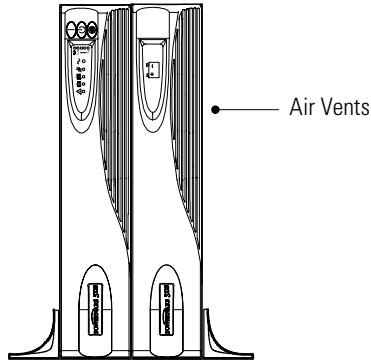
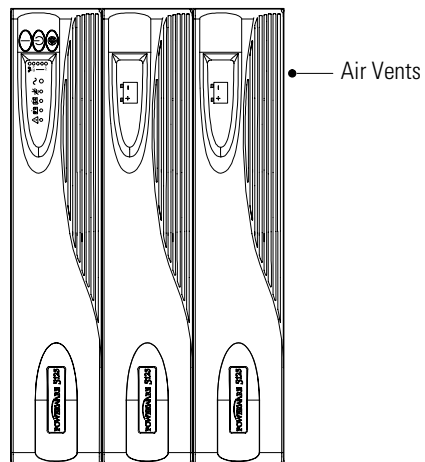

Figure 10. Pedestals with Two Cabinets
Figure 11. Vertical Cabinet Setup
- Carefully position the cabinets upright with the air vents at the top (see Figure 10 or Figure 11).